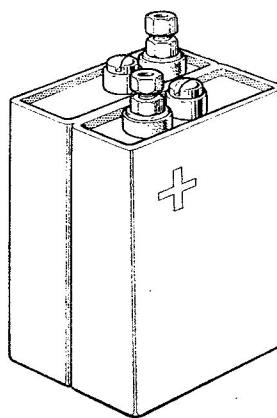

Fig. 1. Battery, 2.4-volt, 1.2 amp. hr.
2. This battery is illustrated in fig. 1. It consists of two cells with their containers welded together; solid steel stoppers with rubber seating washers fitted to the filling apertures render the cells completely unspillable. Two 4 B.A. terminals are fitted, adequately insulated from the metal container; a + sign is embossed immediately adjacent to the positive terminal.